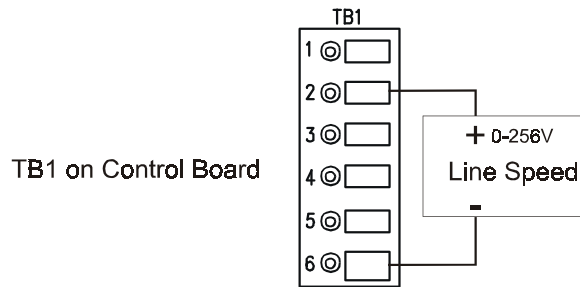

Figure 19- LINE SPEED FOLLOWER ELECTRICAL CONNECTIONS
1. Connect the input from your line speed source as shown in Figure 19.